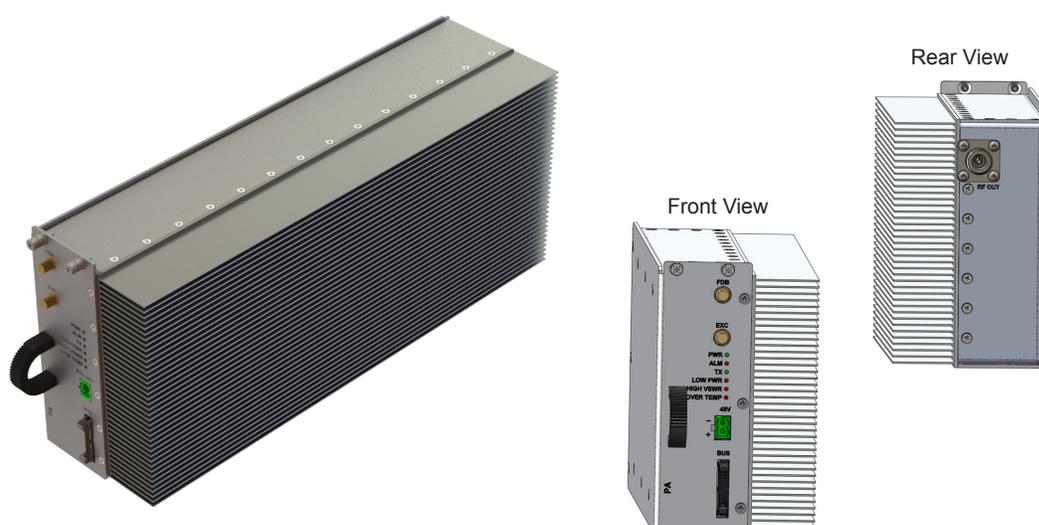

FIGURE 12: Power Amplifier Module
The CASCADE Power Amplifier (PA) is designed to operate in the CASCADE subrack (see Figure 12). The PA provides variable gain (35dB nominal) enabling 1W adjustable power steps amplifying an input signal to a nominal output level between 40dBm and 51dBm. A scaled sample of the output is provided as a control to enable the use of the amplifier in a Cartesian linearization loop. Fault conditions are monitored and reported to the control unit, as well as indicated by LEDs on the front panel.